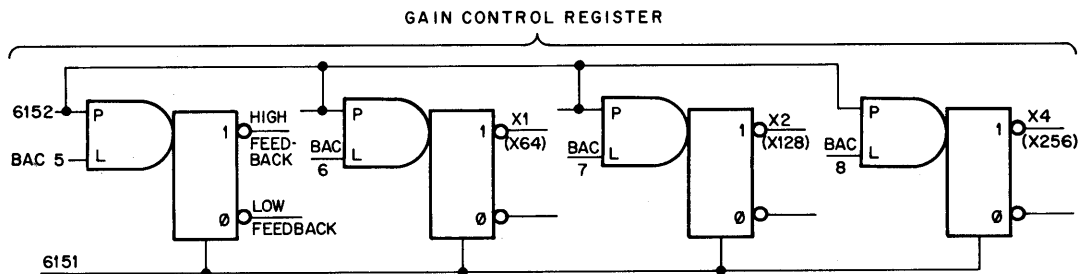

Figure 3-3 Variable Gain Amplifier Control, Simplified Diagram
3.2.1 Variable Gain Amplifier Control (See Figures 3-3 and 6-2)